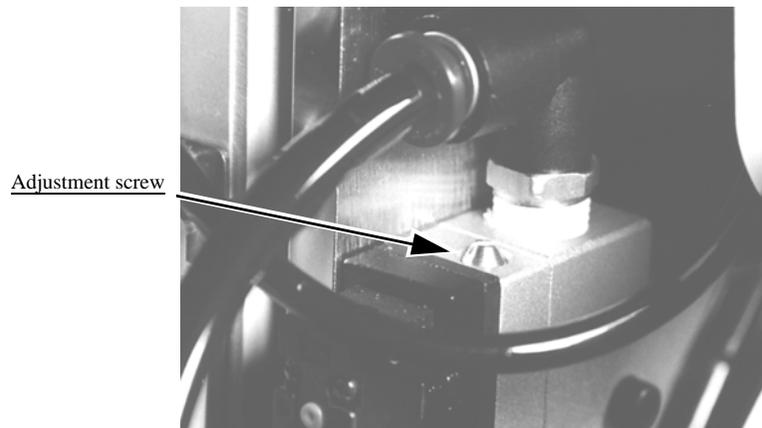

Figure 6-47—Blow-off adjustment screw on vacuum generator
- 2a) On the top of the vacuum generator, locate the blow-off adjustment screw above the valve coils (where the wires plug in). See Figure 6-47.